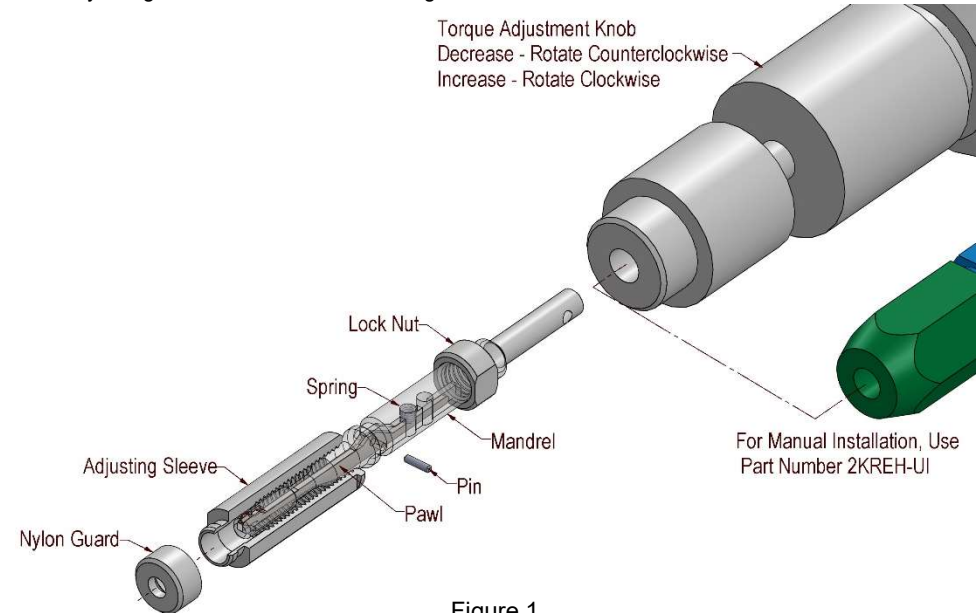

Figure 1
3. Push out the Pawl Pin (see figure 1). Be careful not to lose the Pin.
- The Installation Mandrel (see figure 1) is designed to be used with the KATO SB-400C Electric Driver (CT5405) for sizes 2-56 thru 6-32, and M2.5 thru M4; or the KATO SB-650C Electric Driver (CT5406) for sizes 6-32 thru 3/8", and M5 thru M8.